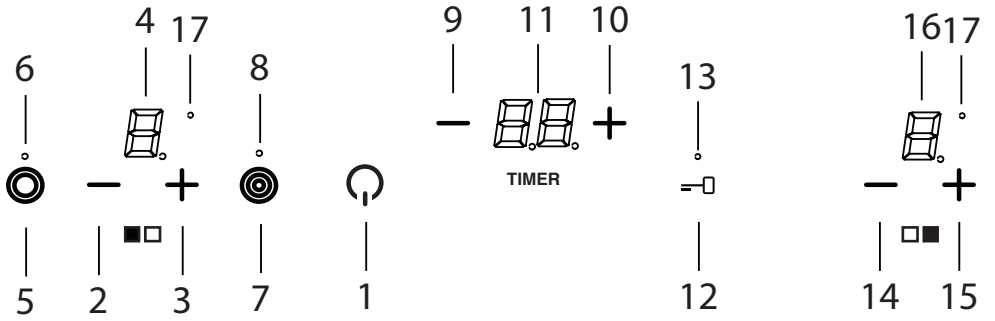

Fig.2 - Hình 2
- User's Instructions (Fig. 2)
- 2 Minus – (HL)
- 3 Plus + (HL)
- 4 Setting level display (HL)